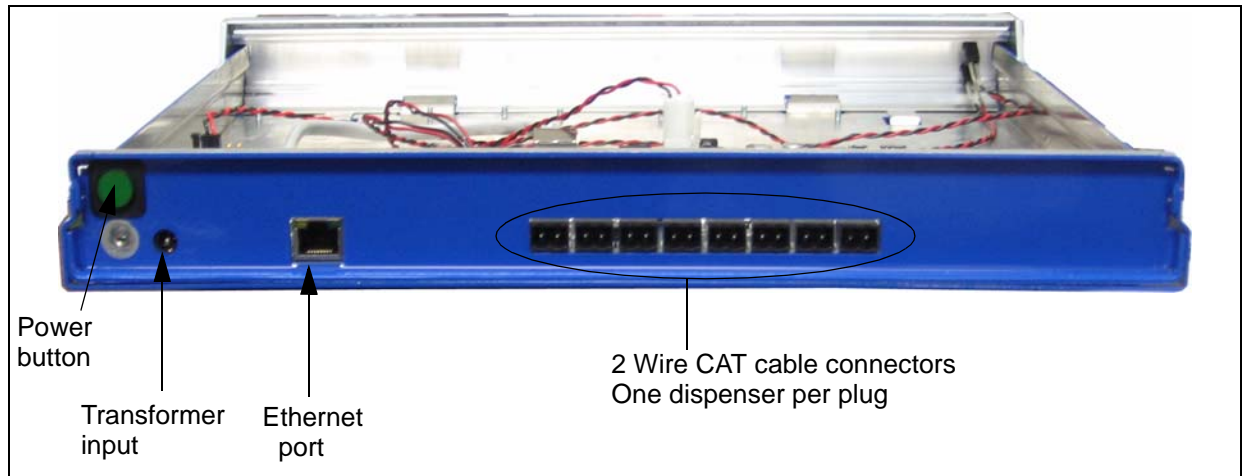

Figure 3 Fusion Rear Panel (Wayne Dispenser Configuration)
5. Plug Fusion power brick into the dedicated 120VAC power outlet, then plug the other end into the transformer input of the FusionNet. See Figure 3.